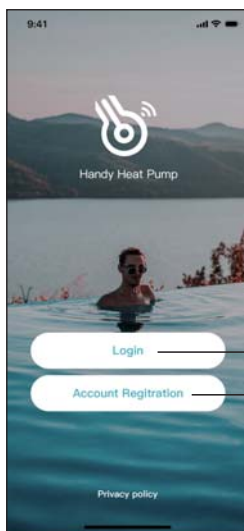
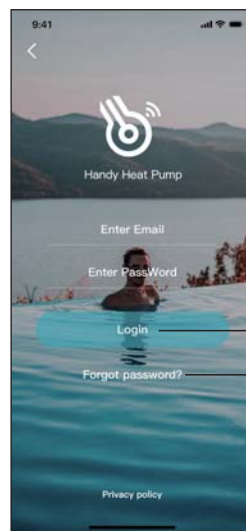
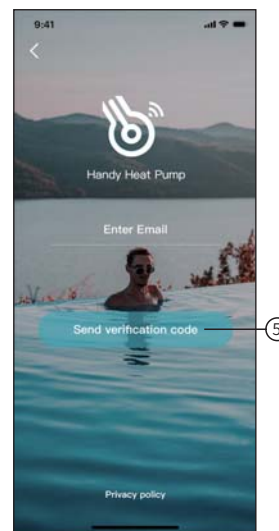

Fig.1 Home page
Fig.2 Login interface
Fig.3 Register and retrieve passwords
1. Account registration: Click ① (Fig. 1) on the home page to jump to the account registration interface (Figure 3).
2. Login: Click ② (Fig.1) on the home page to jump to the login interface (Fig.2) and follow the instructions on the page (as shown in the figure).Enter your registered email address and password, and click ③ to jump to the device list.
3. Forgot Password: When you forget your password, click ④ (Fig.2) and jump to the password forgotten interface (Fig.3).Fill in the relevant information according to the page instructions, click ⑤ to send the email verification code, and operate according to the page instructions.